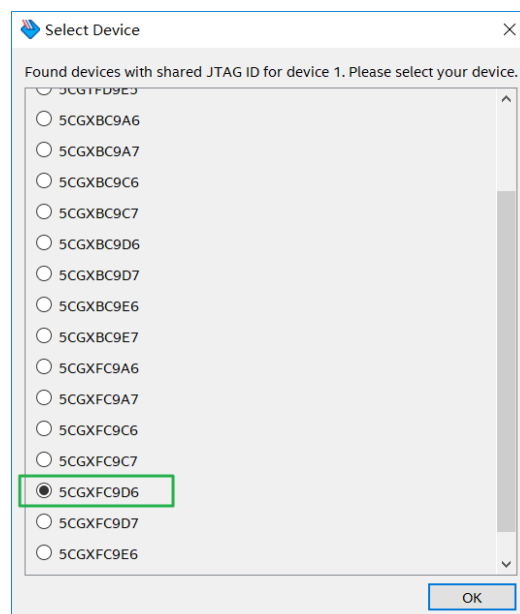

Figure 3-3 Select 5CGXFC9D6
2. Select detected device associated with the board, as circled in **Figure 3-3**.